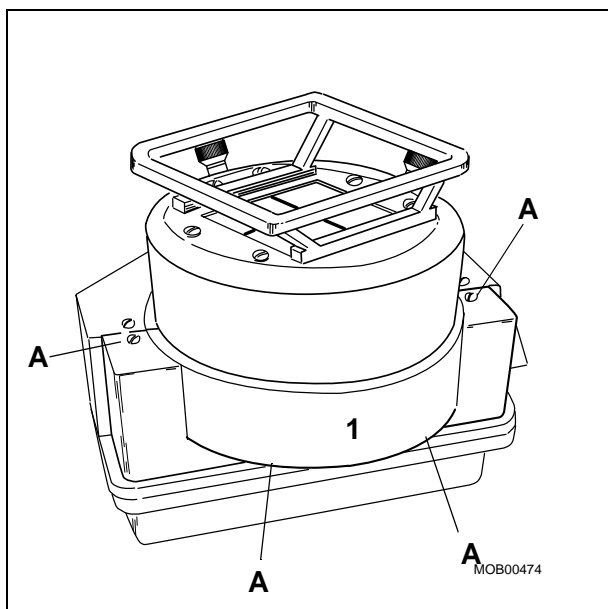

Fig. 1
- Remove the cover (1) by removing the screws (4) marked "A" (Fig. 1). Turn the collimator around so that the lamp housing is in front of the cover opening.